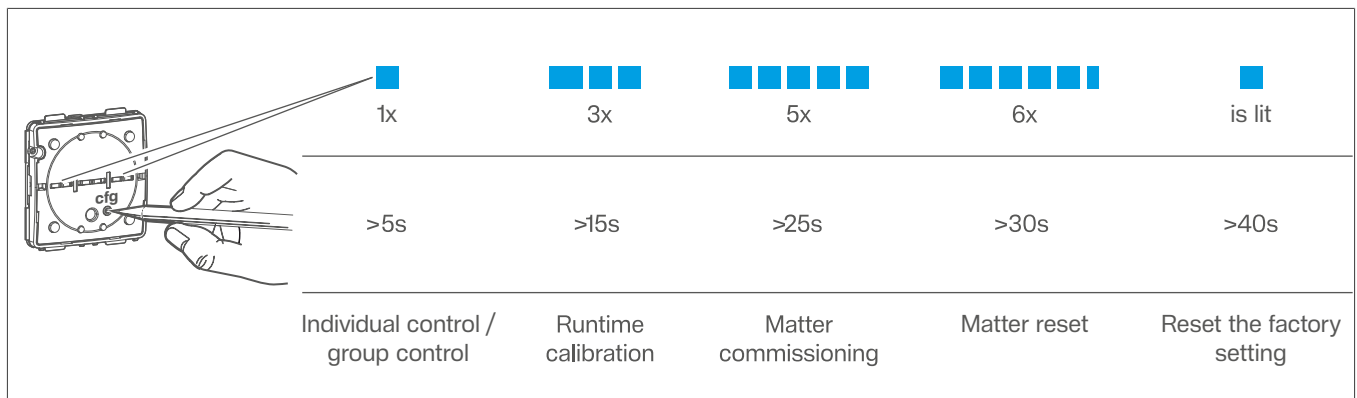

Fig. 13: Special function for blinds insert
The device is in selection mode and flashes repeatedly 1x for individual control operation (Fig. 13: Special function for blinds insert).
- 2 Within 10 seconds, confirm the 'Runtime calibration' selection by pressing the configuration key > 2 seconds (see Fig. 13: Special function for blinds insert).